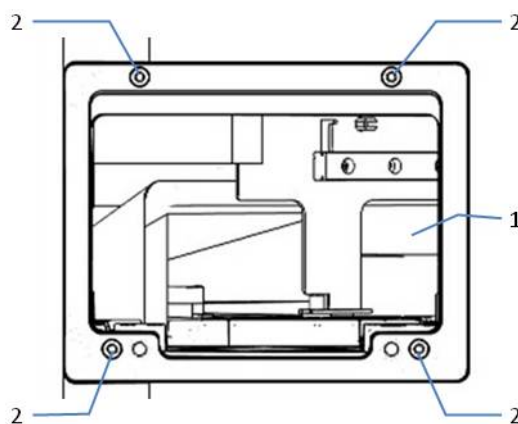

Figure 9: Screws attaching the Charger to the autosampler
4. Open the front door so that you can access the transfer opening to the autosampler on the right-hand side. Remove the four screws next to the transfer opening that fix the Charger to the autosampler shown in Figure 9.